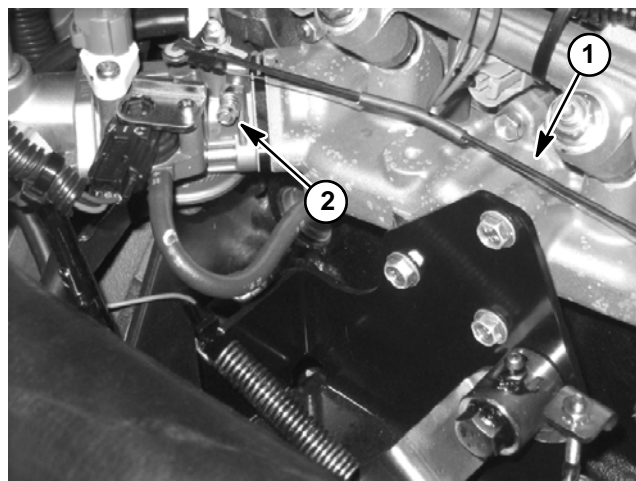

Figure 3
8. Using a tachometer, check low idle speed. Low idle speed should be 1000 ± 50 RPM. If low idle is incorrect, adjust the idle speed screw on the throttle body to obtain 1000 ± 50 RPM (Fig. 3).